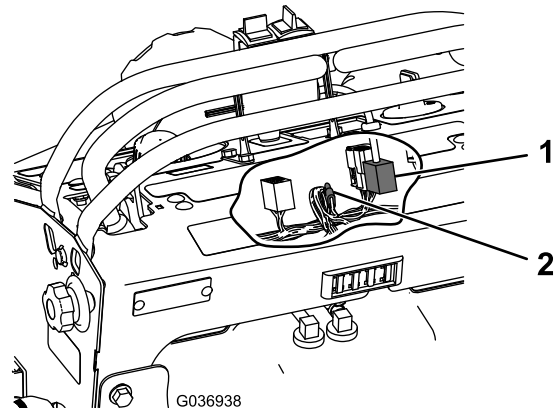

Figure 7
4. Route the BOSS hydraulic-manifold wire harness over the fuel tank and connect it to the auxiliary-power connector on the wire harness of the machine (Figure 7).
5. Connect the BOSS hydraulic-manifold wire harness to the controller connector (Figure 7).